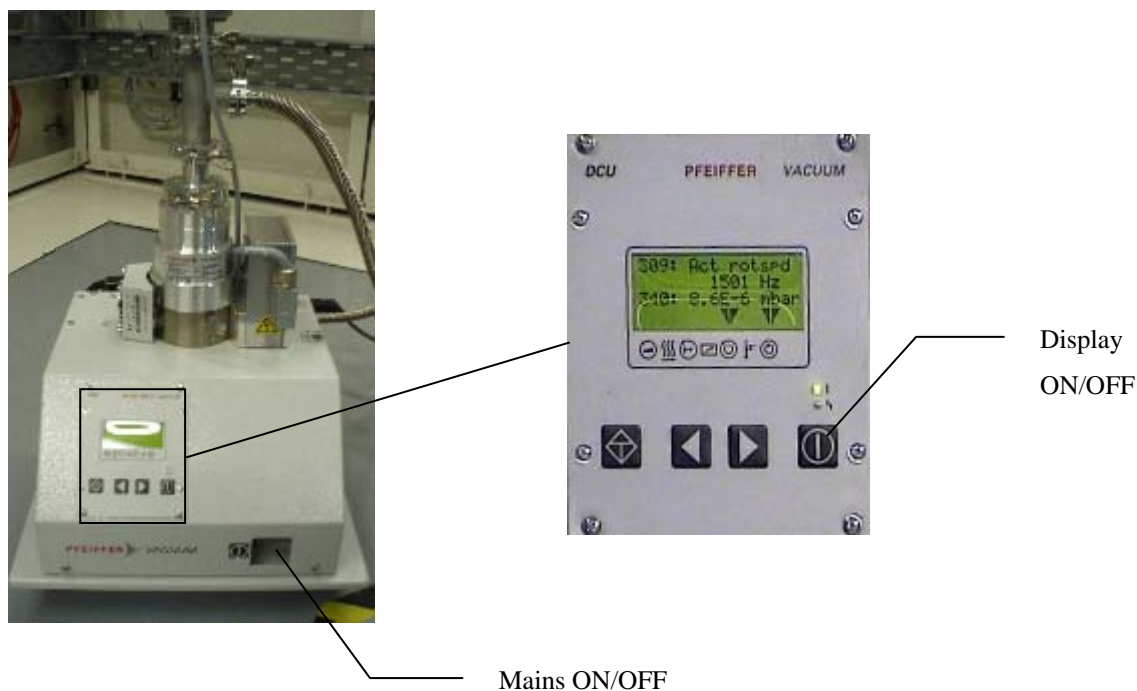

Figure 10 Pumping set used with PheniX cryostat (front view)
On first use, it is necessary to briefly pump with the gas ballast valve open. Pull and twist the sleeve DOWN to open (see Figure 10), leave for 10 minutes then pull and twist the sleeve UP to close.
- Open the gas ballast valve as required (usually approx 10 minutes only). The turbo will accelerate to 1500Hz over the next few minutes. Figure 10 shows the turbo controller display.
- Switch off the turbo pump using the mains on/off button (Figure 10).
- Once the turbo speed is **below 200Hz** slowly open the black vent valve shown in Figure 10.